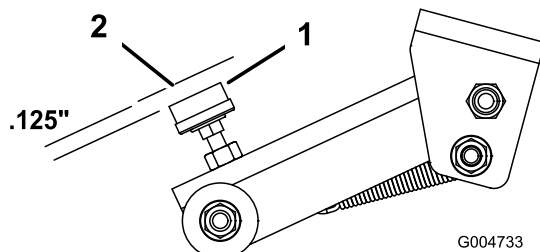

Figure 81
4. Clearance between adjustment screw rubber (Figure 81) cushion and deck latch should be .125 inch. If an adjustment is required, loosen nut on adjustment screw, adjust screw until required clearance is attained and tighten nut.